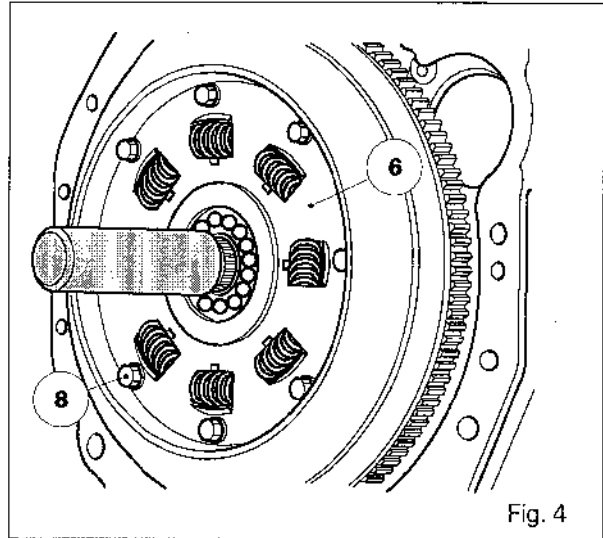

Fig. 4
8. Refit and centre the damper (6) on the flywheel using tool 3378112M1 (see § E and Fig 4) turning the long offset "D" of the hub towards the bearing (10). Fit the bolts (8) (Fig. 4) lightly smeared with Loctite 270 and tighten them to a torque of 68 - 92 Nm.